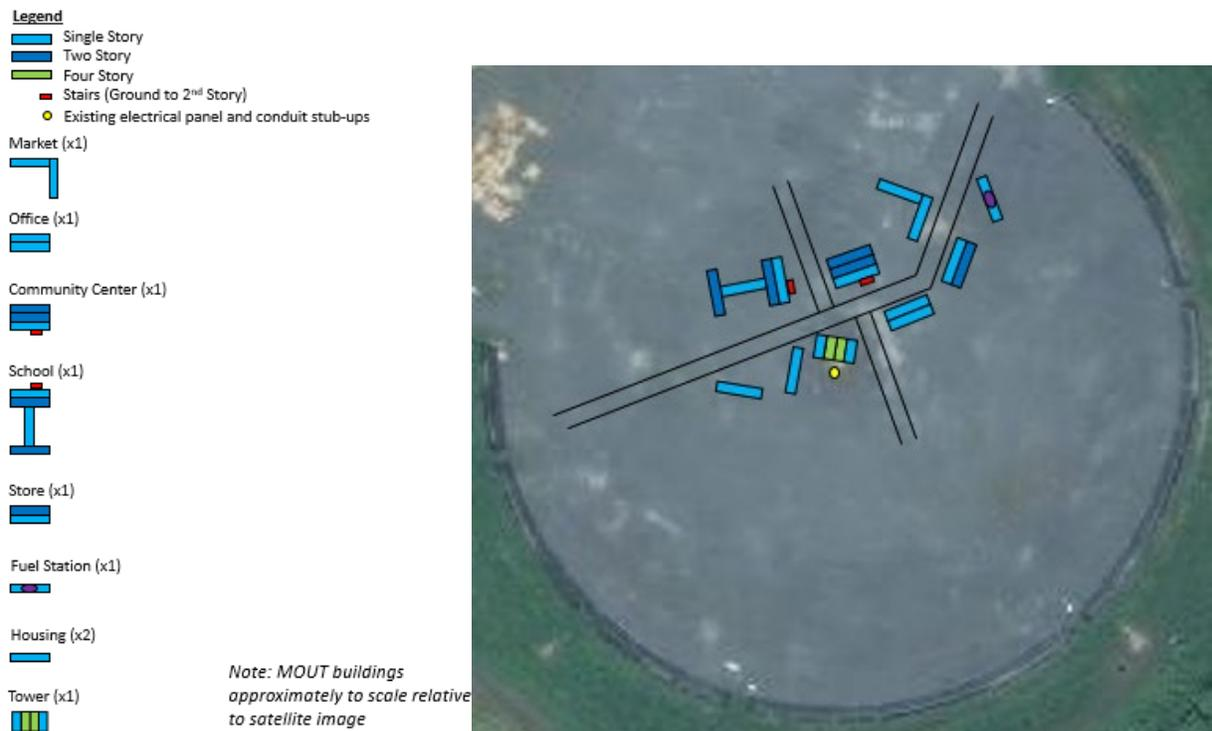

Figure 1: R2C2 Pad Layout with Shipping Containers
- The designated test site, located at ARL's R2C2 is shown below in Figure 1. It depicts a 600-ft (183-m)-diameter gravel pad and the location of multiple CONEX shipping containers that comprise a Military Operations in Urban Terrain (MOUT) environment.